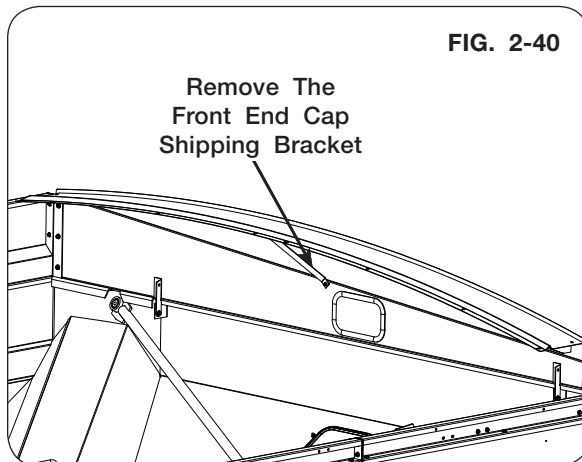

FIG. 2-40
- 26. Remove and discard shipping bracket for the front end cap and front sideboard. (FIG. 2-40)
- 27. Reinstall flange screw (95585) and locknut (9008159) to plug the front sideboard hole. (FIG. 2-40)